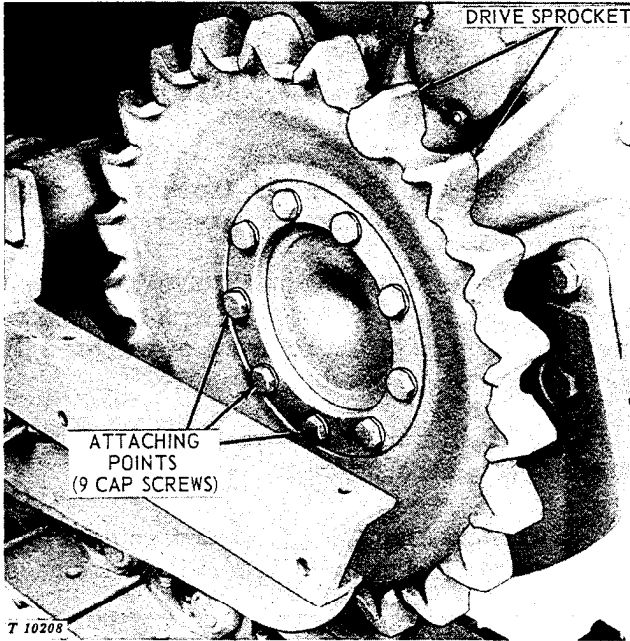

Fig. 20-15-3—Removing Drive Sprocket
9. Block up rear of tractor and remove track drive sprocket by removing cap screws attaching drive sprocket to flanged axle (Fig. 20-15-3). Tap drive sprocket free from flanged axle.
Install sprocket and tighten the sprocket to axle attaching cap screws to 130 ft-lbs (Fig. 20-15-3).